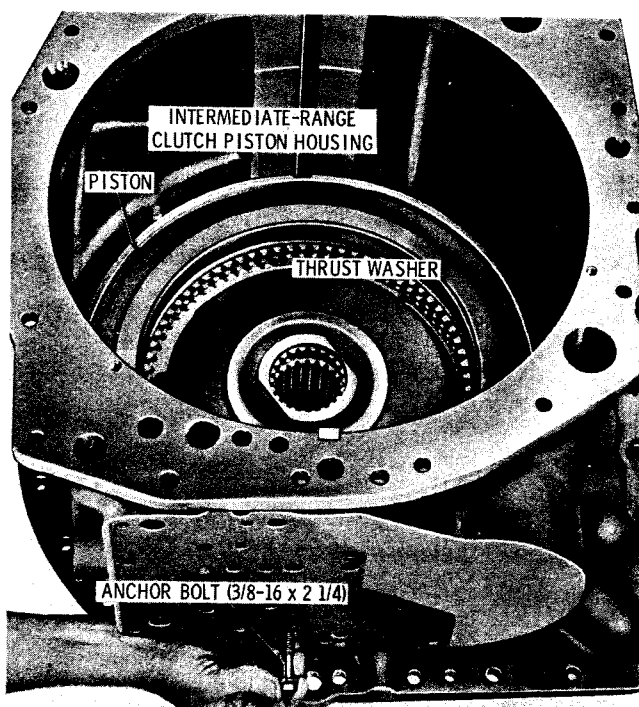

Fig. 7-12. Installing intermediate-range clutch piston housing anchor bolt
(6) Install the thrust washer onto the hub of the low-range clutch assembly (fig. 7-12).
(7) Install the intermediate-range clutch piston housing, piston cavity upward (fig. 7-12). Seat the housing against the compression (crush) ring. Install the 3/8-16 x 2 1/4-inch bolt, with lock washer, to retain the housing. Tighten the bolt to 26 to 32 pound feet torque. Then loosen the bolt 1 to 2 turns.
(8) Install the intermediate-range clutch piston, with seal rings and expanders, into the piston housing (fig. 7-12). The shouldered side of the piston must be facing upward.